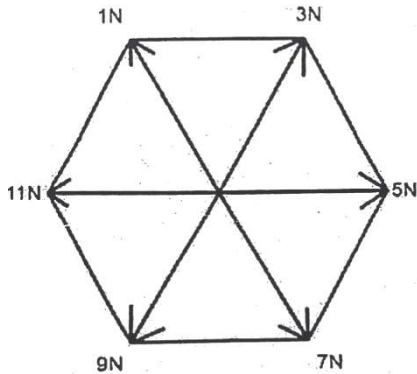

Figure 1.1
7. Concurrent forces of 1, 3, 5, 7, 9 and 11 N are applied at the centre of regular hexagon acting towards its vertices as shown in Figure 1.1. Determine the magnitude and direction of the resultant.